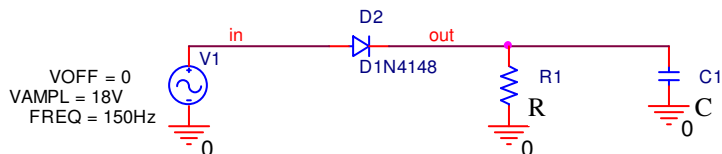

Figure 2.2. Simple Half Wave Rectifier
2.2. Referring to Figure 2.2, let us change the above VSIN source to an AC signal of amplitude 18V and frequency 150 Hz.
Design problem: Referring to Figure 2.2, this input signal needs to be converted to a rectified+filtered signal, with ripples amplitude of less than 1.2V. For that purpose, a half-wave rectifier and filter is used. How large should R and C be? Show all calculations and design formulas. (Don't use capacitor values larger than 200uF, or resistor values larger than 100k Ω). Also be aware that a too large value for R may cause the diode's current to be very small and it may degrade the diode's performance). For this part of the homework, you will need to refer to the RC design formula, given in Unit 13. Demonstrate that your design is successful, by measuring the ripples peak-to-peak with cursors. Use Transient with a run time of 5ms.